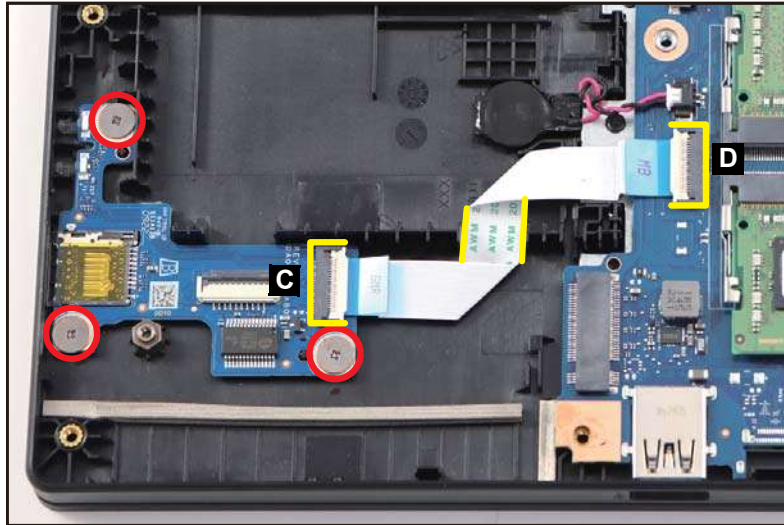

Figure 3-92. Replacing the Card Reader Board
2. Install and secure three (3) screws to the card reader board (Figure 3-92).
3. Connect one end of the card reader board FFC to the card reader board connector (C) (Figure 3-92).
4. Connect the other end of the card reader board FFC to the mainboard connector (D). Then press the portion of FFC (highlighted by the yellow lines) to ensure the adhesive tape underneath is properly attached (Figure 3-92).